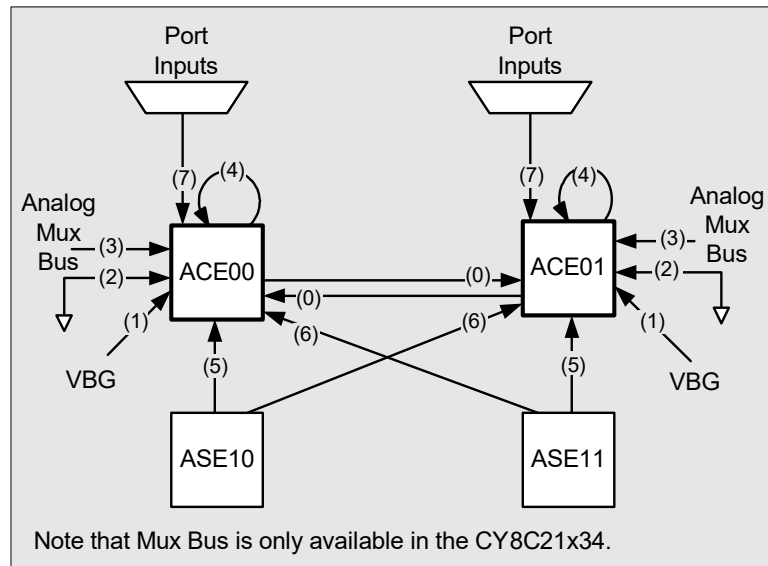

Figure 24-5. NMux Connections for the CY8C21x34, CY8C21x34B, CY8C21x23, CY7C603xx, and CYWUSB6953 PSoC Devices
The NMux is an 8-to-1 mux which determines the source for the inverting (also called negative) input of Continuous Time (CT) PSoC blocks. These blocks are named ACE00 and ACE01 in the CY8C21x34, CY8C21x34B, CY8C21x23, CY7C603xx, and CYWUSB6953 PSoC devices. More details on the CT PSoC blocks are available in this chapter, in the section titled “Continuous Time PSoC Block” on page 425. The NMux connections are described in detail in the ACExxCR1 register on page 184, bits NMux[2:0]. The numbers in Figure 24-5, which are associated with each arrow, are the corresponding NMux select line values for the data in the NMux portion of the register. The call out names in the figure show nets selected for each NMux value.